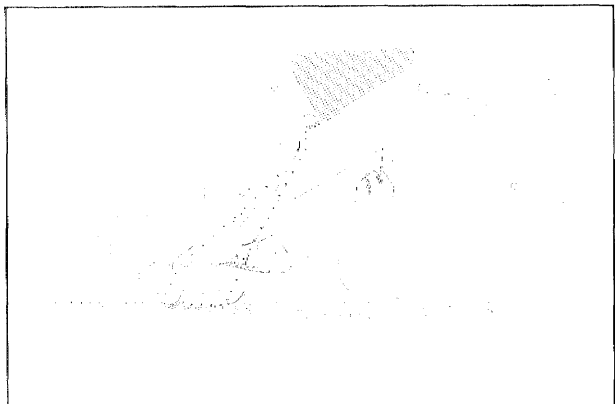

Fig. 5
- **AMAZONE Rotary cultivator with Pack Top seed drill equipped with 'K'-(Suffolk) coulters** (Fig. 5) on all soils (also when extremely clayey or stony) with or without preseeding operation by subsoiler or plough without or with only some organic matter on the surface.